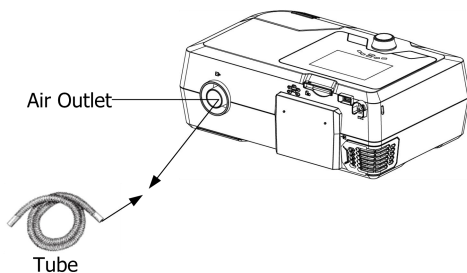

Fig. 11-6
- (1) Connect one end of the tube to the air outlet of the main device, as shown in Fig. 11-6.